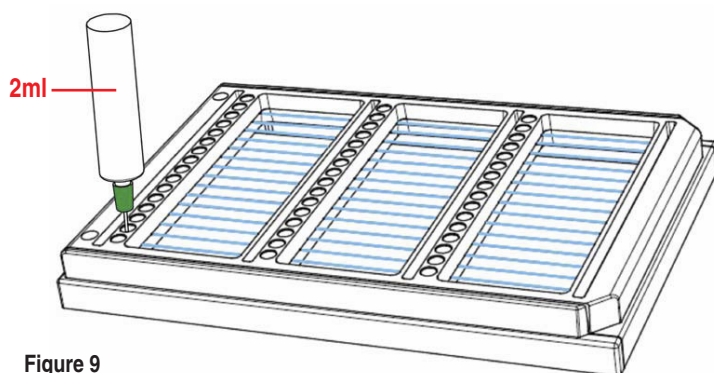

Figure 9
9. After filling all 48 precipitation wells use the Capillary Cleaving flat end green nozzle of 2ml syringe to cut the capillary of those 48 wells, one capillary at a time. Hold the flat green nozzle into the filled precipitation well and gently twist. The breaking of capillary is audible and can be also checked with a microscope (Figure 9). Avoid cross contamination by cleaning after each cut with tissue wipe.